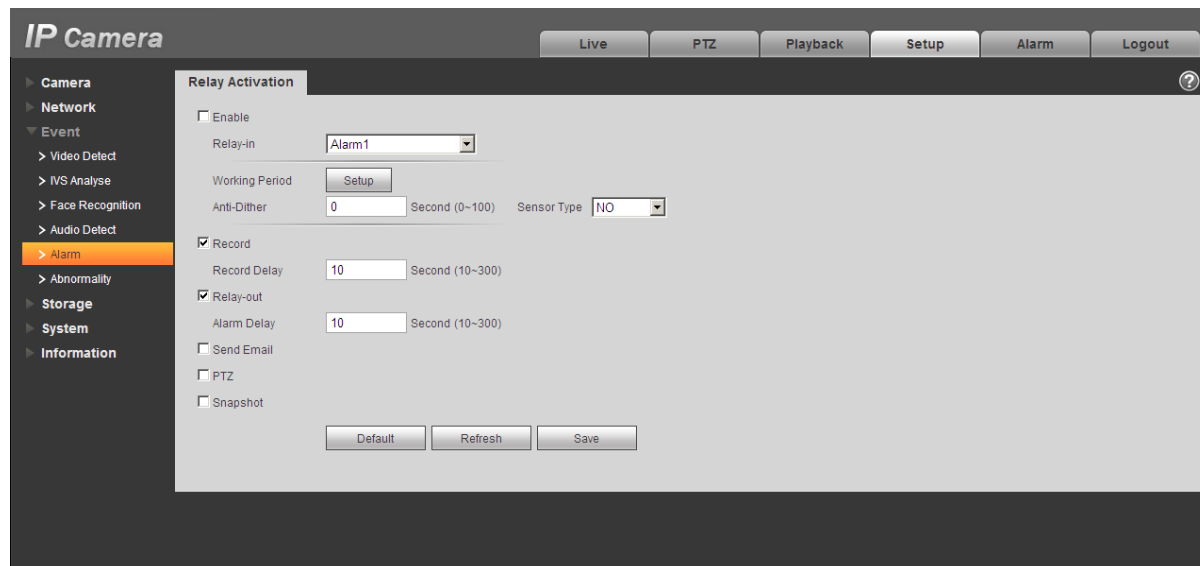

Figure 2-5 Alarm
The alarm interface is shown as in Figure 2-5.
- Step 3. Open the Web, go to the Figure 2-5. Here you can set the alarm input setup and alarm output setup. Here the alarm input is the alarm input on the rear panel I/O port (as IN port). Then you can select the corresponding type (NO/NC) according to the high/low level type when an alarm occurs.